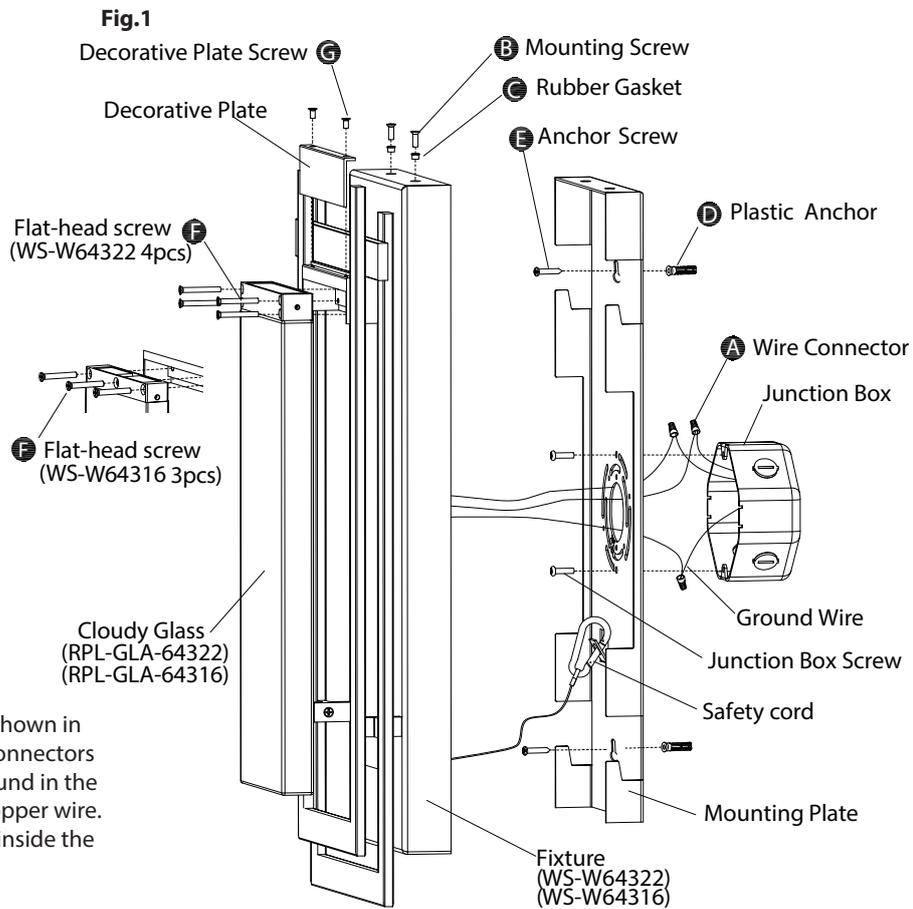

Fig.2 Wiring
CONNECTING THE WIRES (Fig. 2)
6. Connect the fixture's wires to the junction box wires as shown in Fig. 2 using wire connectors (A) provided. Ensure wire connectors are secure. Connect the fixture's ground wire to the ground in the junction box; this will be either a green wire or a bare copper wire. After fixture is wired to house wires, tuck wires carefully inside the junction box.